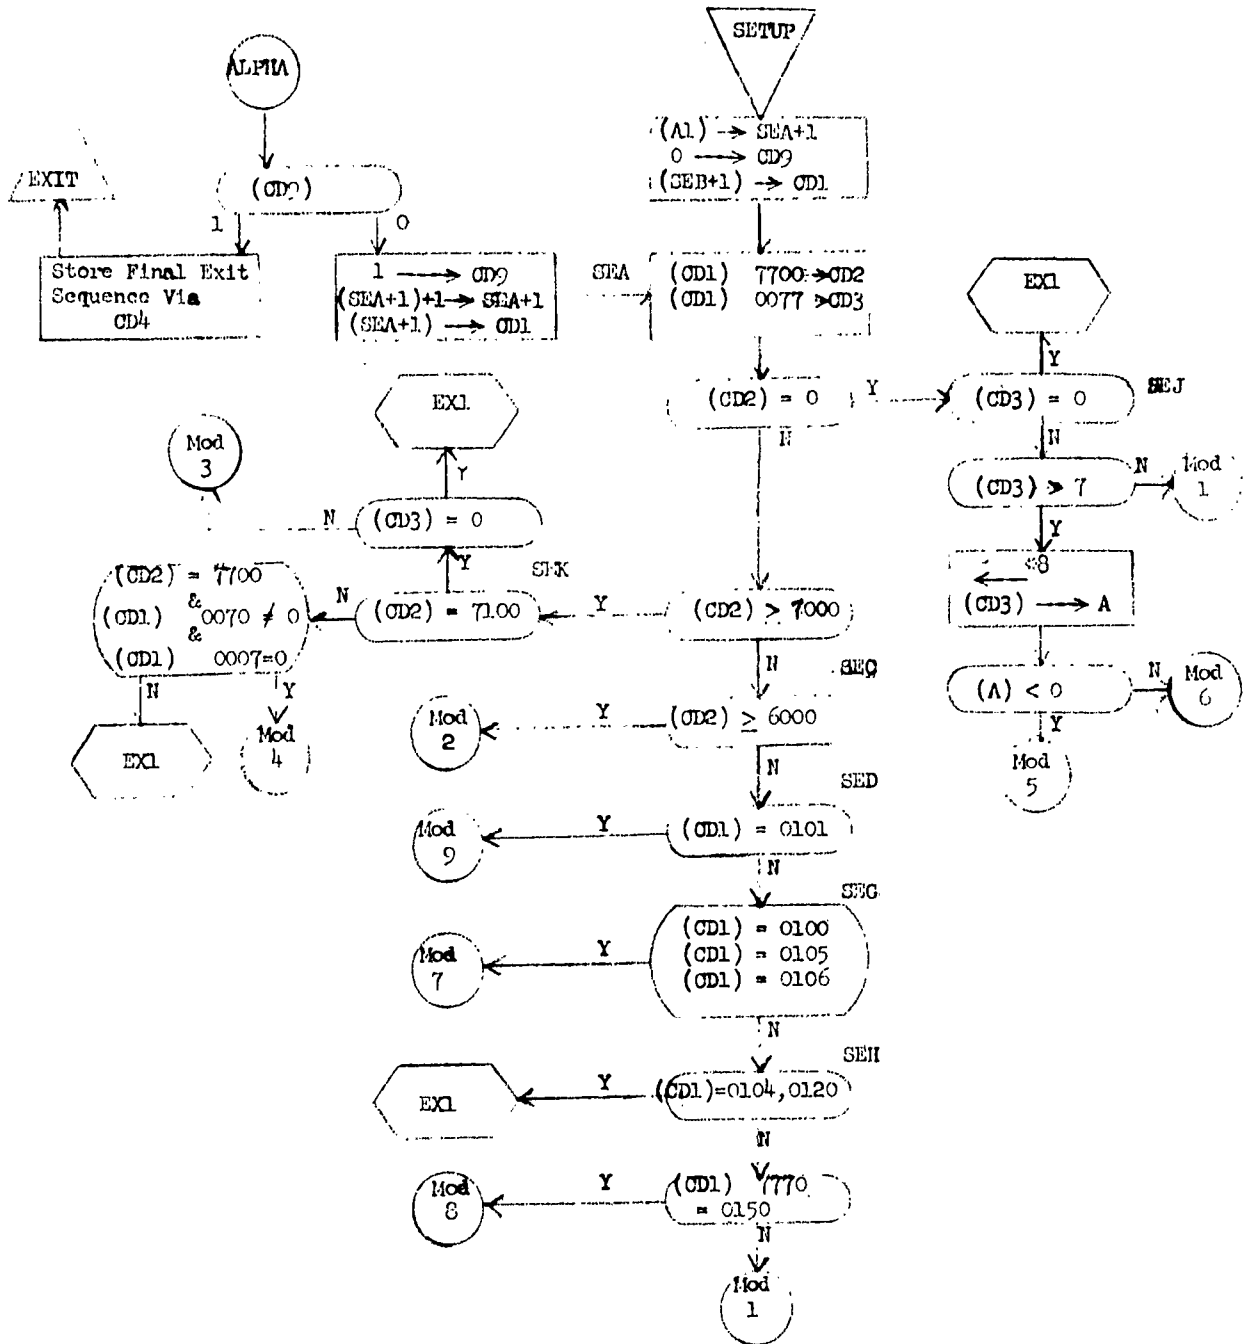

Figure 7.26 SETUP
7.3.7.3 SETUP Module Control Sequence (Figure 7.26)
- o. Each time a Module completes a translation, it returns to ALPHA (upper left portion in Figure 7.26). ALPHA is step p.
- c. Return to ALPHA (Figure 7.26).